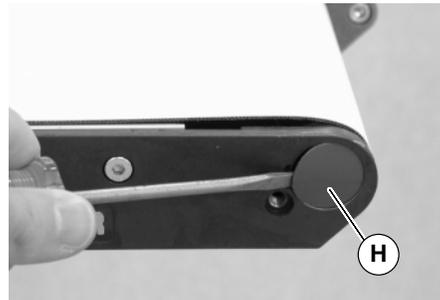

Figure 3
3. With the small flat blade screwdriver, remove bearing cover (H of Figure 3) on both sides of conveyor.